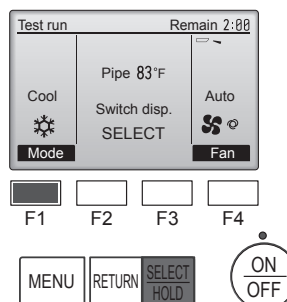

Fig. 7-3
- (1) Press the [F1] button to change the operation mode. (Fig. 7-3)